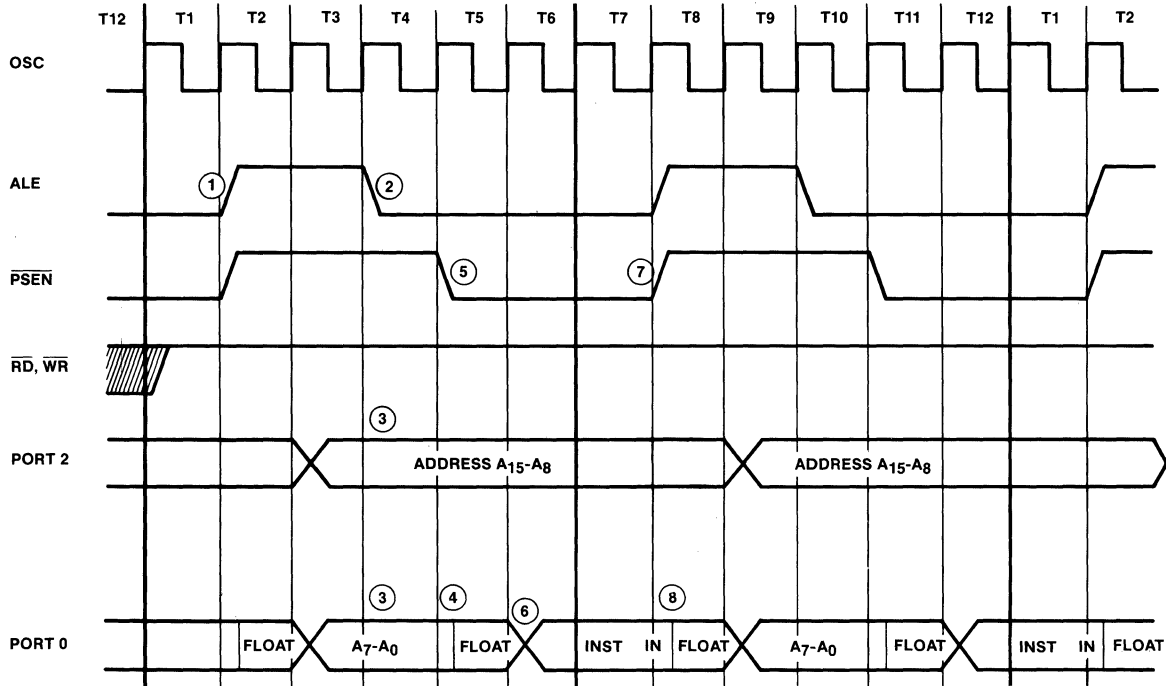

Figure 2.41. Program Memory Read Cycle Timing
Each Program Memory bus cycle consists of six oscillator periods. These are referred to as T1, T2, T3, T4, T5 and T6 on Figure 2.41. The address is emitted from the processor during T3. Data transfer occurs on the bus during T5, T6 and the following bus cycle's T1. When fetching from external Program Memory, the 8051 will always fetch an even number of bytes. If an odd number of bytes are executed prior to a branch or an External Data Memory access the non-executed byte will be ignored by the 8051. An even number of idle bus cycles (each 6 oscillator periods in duration) can occur between external bus cycles when the processor is fetching from internal Program Memory. The read cycle begins during T2, with the assertion of address latch enable signal ALE (1). The falling edge of ALE (2) is used to latch the address information, which is present on the bus at this time (3), into the 8282 latch if a non-multiplexed bus is required. At T5, the address is removed from the Port 0 bus and the processor's bus drivers go to the high-impedance state (4). The program memory read control signal (PSEN) (5) is also asserted during T5. PSEN causes the addressed device to enable its bus drivers to the now-released bus. At some later time, valid instruction data will become available on the bus (6). When the 8051 subsequently returns PSEN to the high level (7), the addressed device will then float its bus drivers, relinquishing the bus again (8).